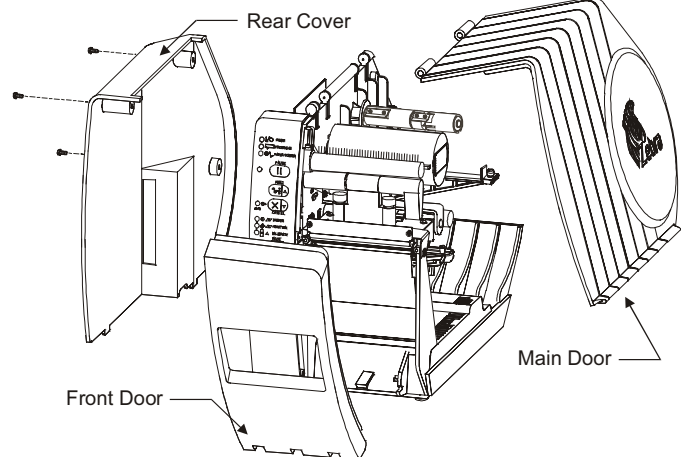

Figure 2.
10. Remove the three cover screws attaching the rear cover to the printer main frame (see Figure 2).